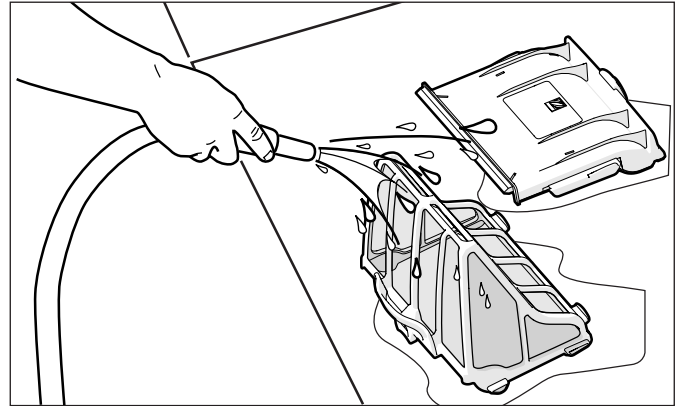

Figure 23. Wash Filter Canister
- Empty all debris from the filter canister, then rinse the canister, the filter support and the cleaner using a hose, as shown in Figure 23.